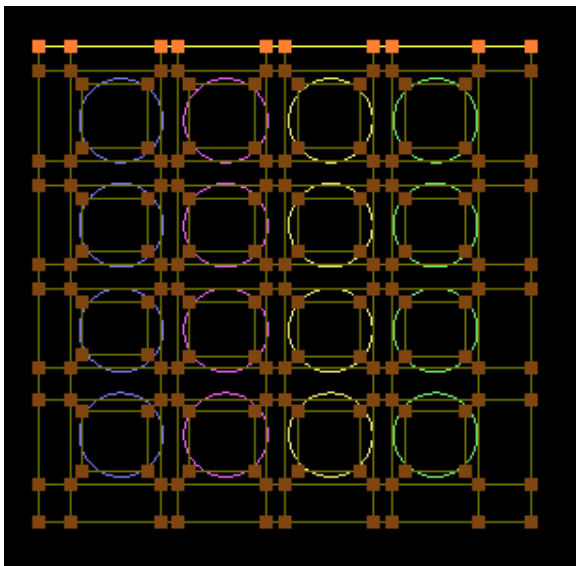

Figure 29.1
- Group the outermost layer corners on top as shown in figure 29.1 in a group, say group 2.